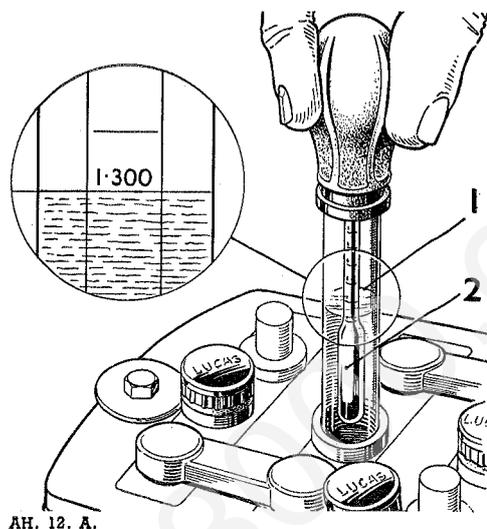

Fig. N.1.
- (2) Remove the vent plugs and check that they are not perished or cracked, otherwise leakage of electrolyte will occur. Clean out the vent holes, if necessary, with a piece of wire.
- (3) The electrolyte levels should be maintained **just above** the tops of the separators by adding distilled water. Never add acid.
- (4) Check the terminal posts. If they are corroded, remove the cables and clean with diluted ammonia. Smear the posts with petroleum jelly before remaking the connections and ensure that the cable terminal clamp bolts are secure. Do not overtighten the clamp bolts.
- (5) Test the condition of the battery cells by using a hydrometer (see Fig. N.1).
- (1) Place the battery on a lead-covered bench, or on a wooden bench the top of which has been treated with anti-sulphuric paint.
- (2) Check the electrolyte levels.
- (3) Inspect the container for cracks, which may be indicated by external corrosion or extreme variations of electrolyte levels. A cracked container must be renewed.
- (4) Test the condition of the battery cells by using a hydrometer (see Fig. N.1).